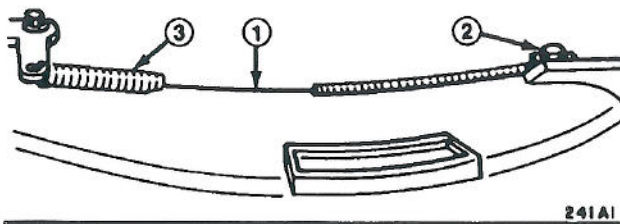

Figure 22
2. Loosen cable clamp screw until brake cable is free to slide (Fig. 22).
3. Pull brake cable slightly to remove any slack but not enough to put tension on the spring (Fig. 22). Tighten the cable clamp screw to lock the adjustment in place.